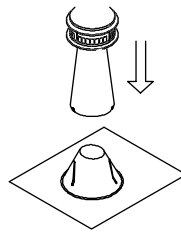

Figure 15
1. Description. The Combination Cap, provides an easily installed, safe and efficient B-Vent Cap and Flashing, as one lightweight unit. The two basic components and the assembled unit are shown in *Figure 15*. The Combination Cap is designed to accommodate roof pitches from flat to 6/12, and is available for 3" through 6" diameter B-Vent pipe.